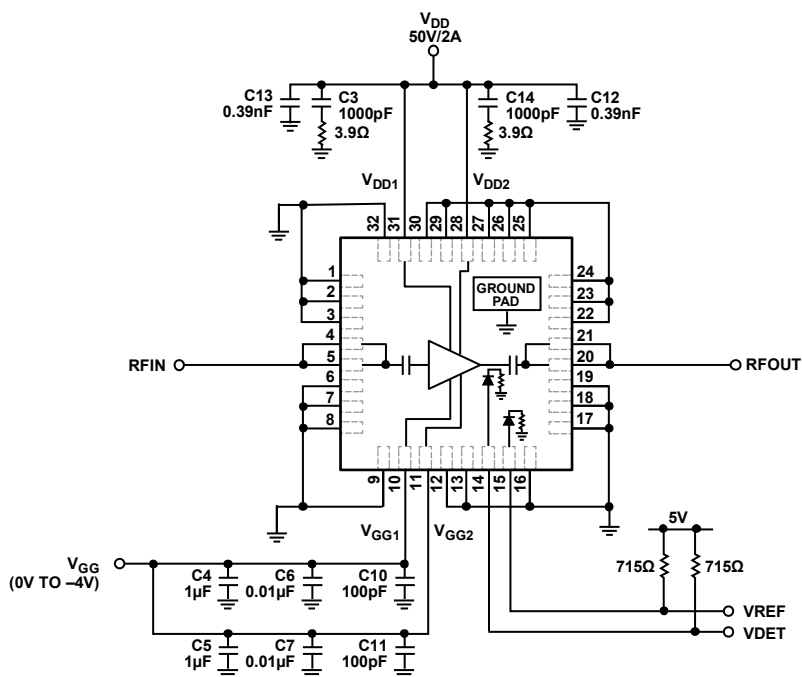

Figure 50. Basic Connection
The basic connections for operating the ADPA1105 are shown in Figure 50. Apply a power supply voltage between 20 V and 50 V to the V_{DD1} and V_{DD2} pins. Decouple each pin with the capacitor values shown in Figure 50. Place 3.9 Ω resistors in series with the two 1000 pF power supply decoupling capacitors connected to Pin 28 and Pin 31 (V_{DD2} and V_{DD1}). Tie together the two gate voltage pins, V_{GG1} and V_{GG2} , and drive the pins as shown in Figure 50. Pin 2, Pin 3, Pin 7, Pin 12, Pin 13, Pin 18, Pin 22, Pin 23, Pin 26, Pin 27, Pin 29, and Pin 30 are designated as no connect (NC) pins. Although these pins are not internally connected, the pins were all connected to ground during the characterization of the device and provide some additional thermal relief.